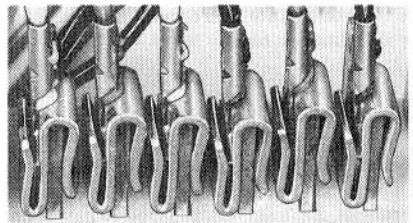

Fig. 12—Typical Installation of 161A Adapter on 66E-Type Connecting Block
**4.02** Position the adapter over the terminal and press it onto the terminal as far as possible. Insert the spade tip and seat it firmly in the adapter. Figure 12 shows the adapter and spade tip installed.
**4.03** When 161A adapters are used on adjacent connectors, the adapters should be oriented so that possible shorting between connectors is avoided. Figure 12 shows proper and improper